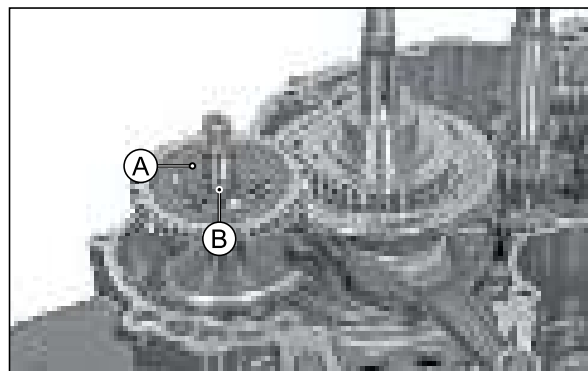

Fig. 3.146
- Take out shim (15x27x0.5) (A) and retainer spring (B) from the balancer shaft. (Fig. 3.146)